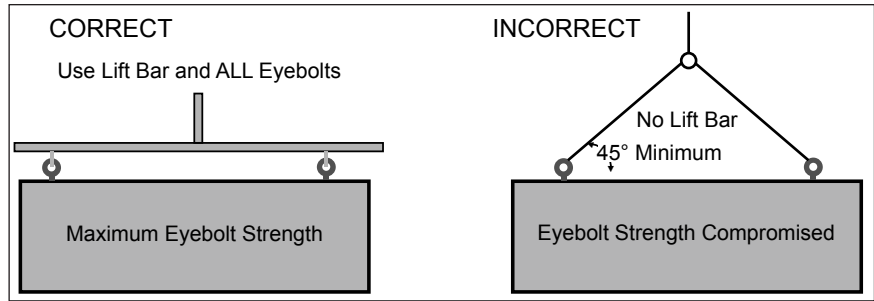

Figure 2: Correct/Incorrect Lifting Procedures
1. Lift the display into position on the support structure following the guidelines in **Figure 2**.